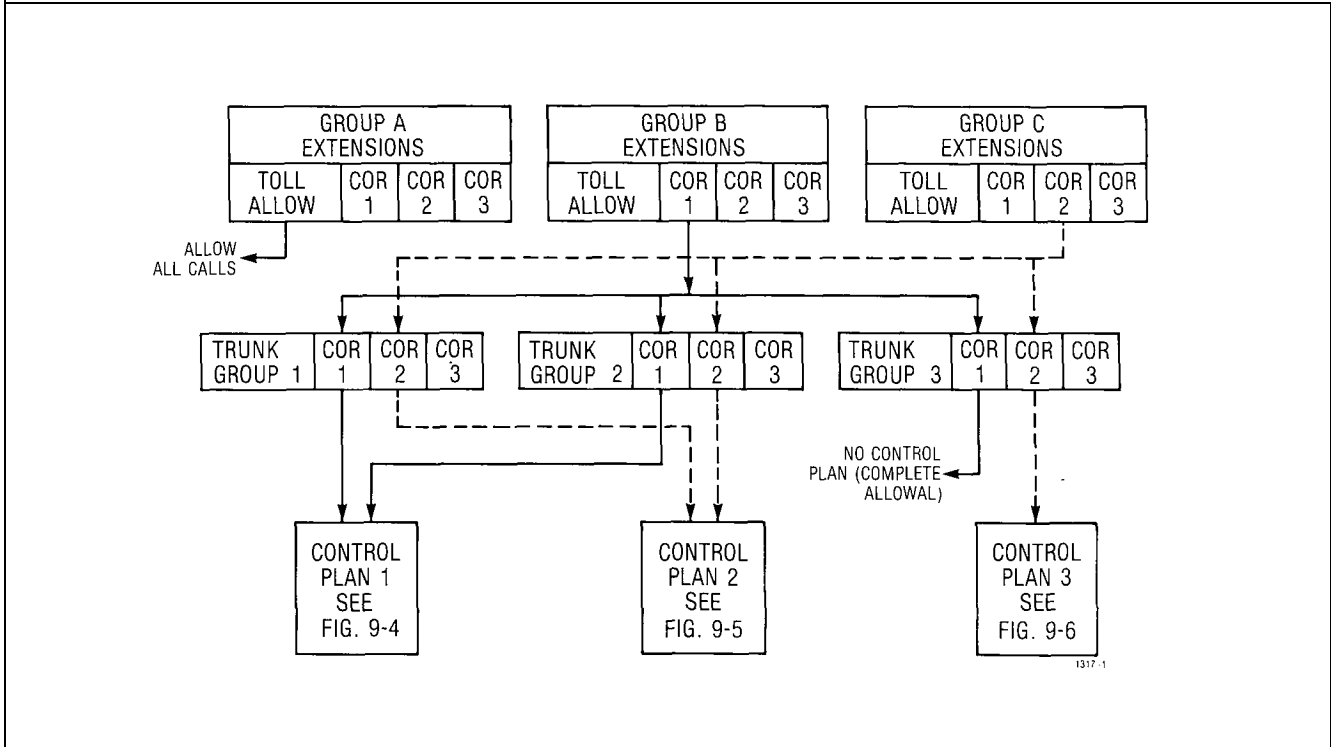
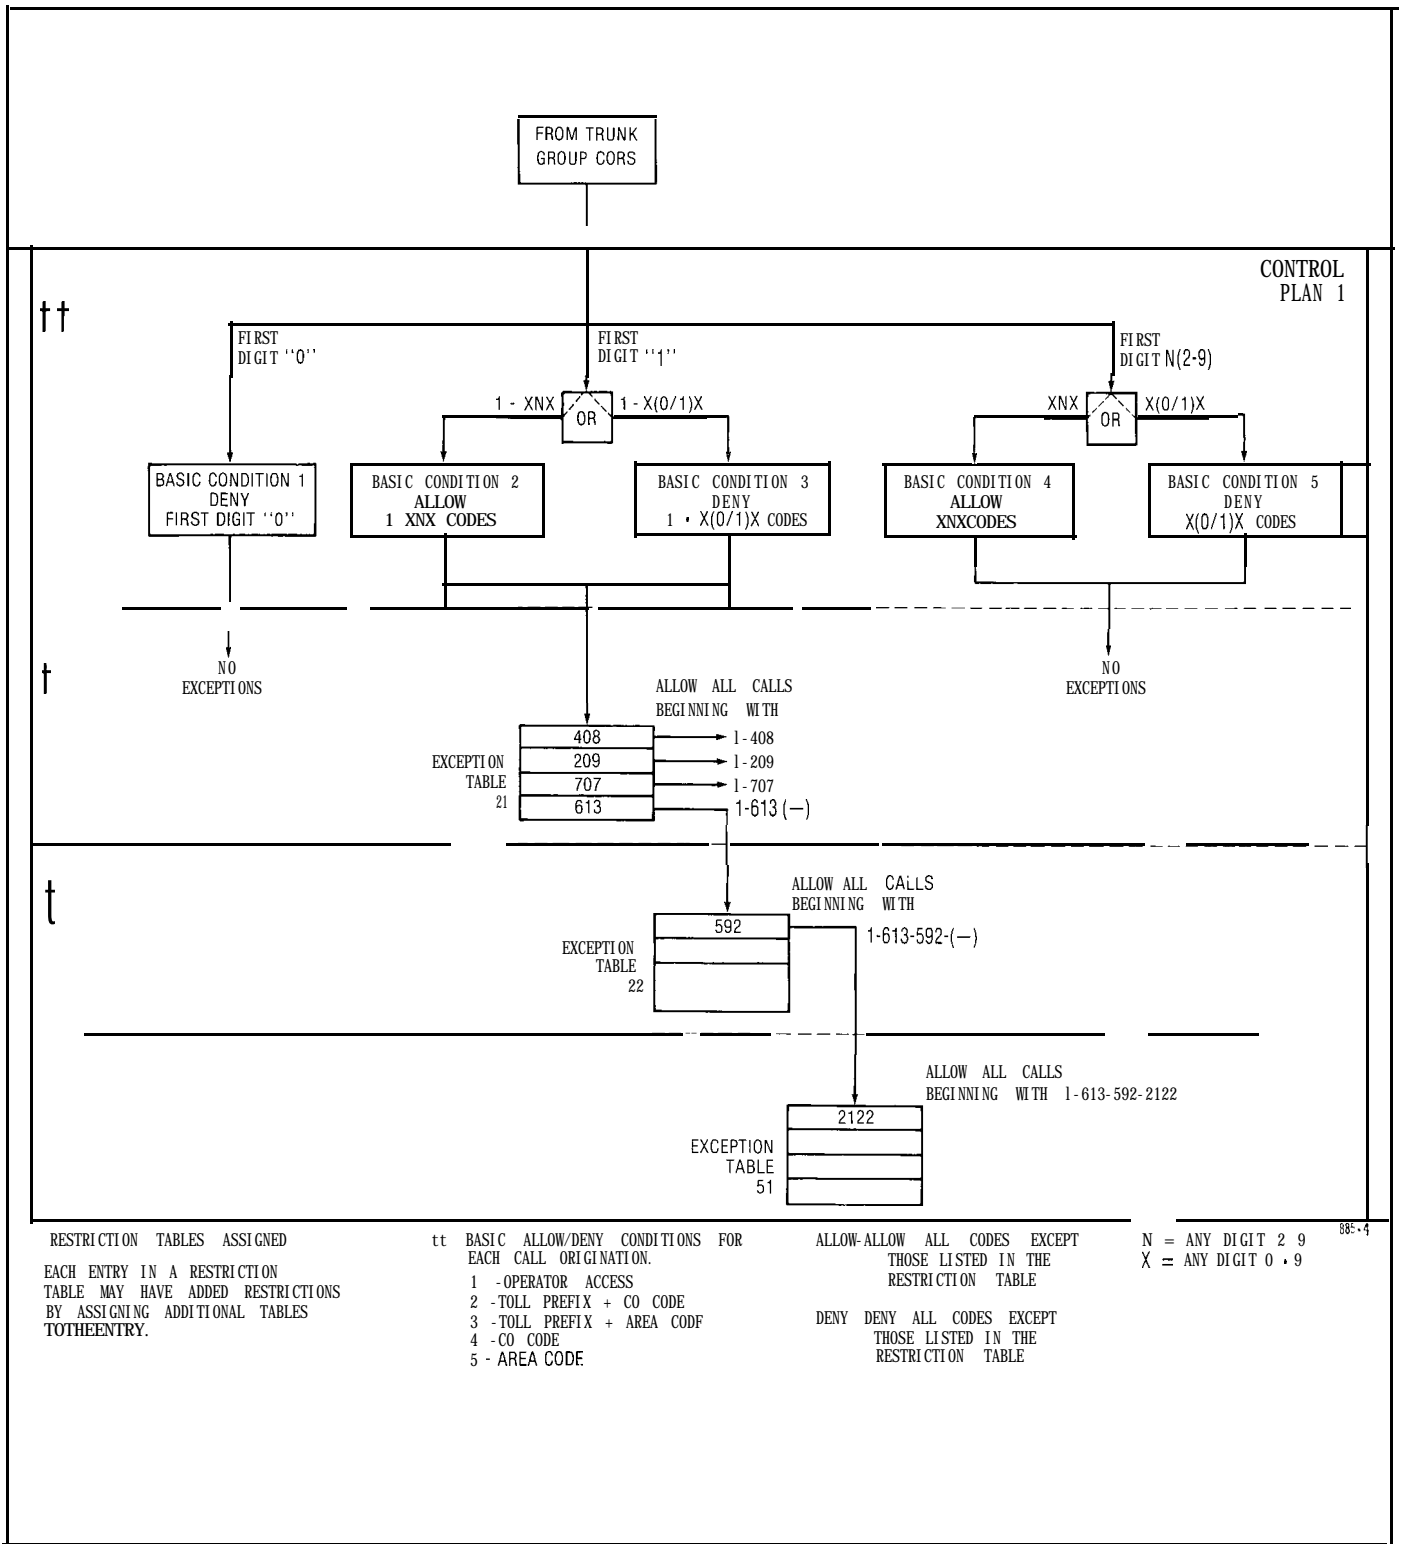

Fig. 9-3 Control Plan Assignment
Fig. 9-4 Control Plan 1
9.04 Example 2: This example will parallel the example outlined in sections 5.10 to 5.16. The Control Plan assignment is again shown in Fig. 9-3. Figs. 9-4, 9-5 and 9-6 show the Control Plans required, with the completed installation forms following. The required information is:
Assign Control Plans as shown in Fig. 9-3.